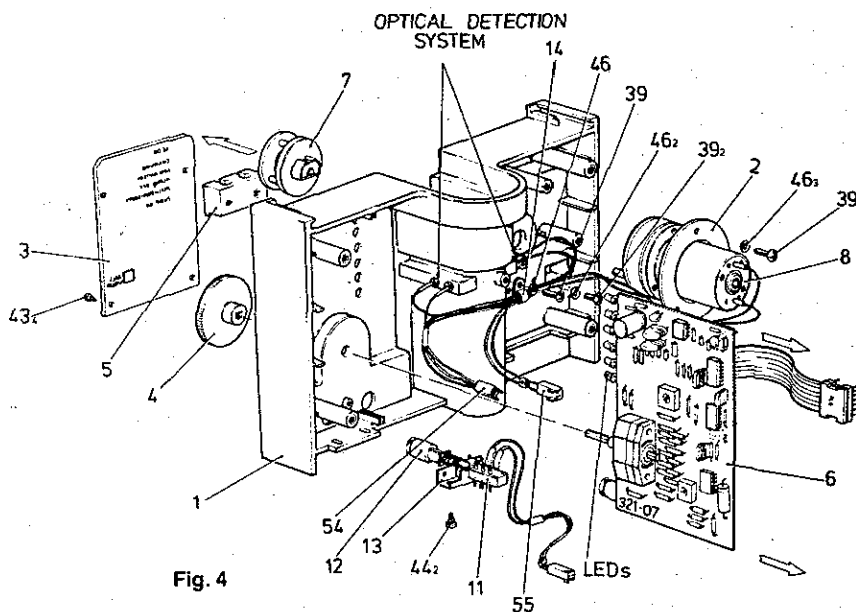

Fig. 4
Refer to Figure 4. Remove the clear window (item 3) by removing four screws (item 43₄).